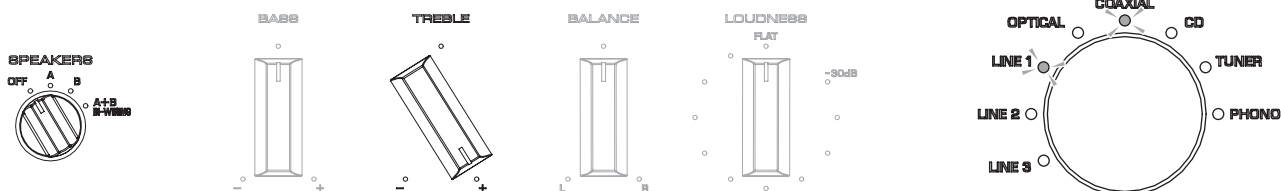

Fig. 11
Turn the "TREBLE" knob to "+" and the "SPEAKERS" knob to "OFF". (Fig. 11)
The AD value for the diode THM (temperature) (TH501 on FUNCTION (4) P.C.B. and D111 on MAIN (1) P.C.B.) is indicated in binary code (BCD) using the "INPUT" indicators. (Fig. 11)
* The AD value of the diode (D111 on MAIN (1) P.C.B.) temperature when a protection function is activated is stored, regardless of the type of protection function.
"TREBLE" のつまみを "+" の位置にして、"SPEAKERS" つまみを "OFF" の位置にします。(Fig. 11)
ダイオード THM (温度) (FUNCTION (4) P.C.B. の TH501、MAIN(1) P.C.B. の D111) の AD 値が "INPUT" インジケータを使って 2 進数 (BCD) で表示されます。(Fig. 11)